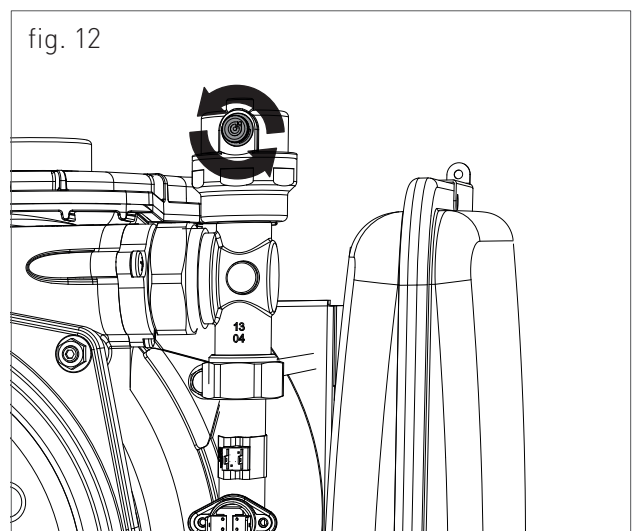

fig. 12
3. Slightly loosen the cap of the air eliminator placed on the top of the condensing block (fig. 12) to release the air from the top of the system;